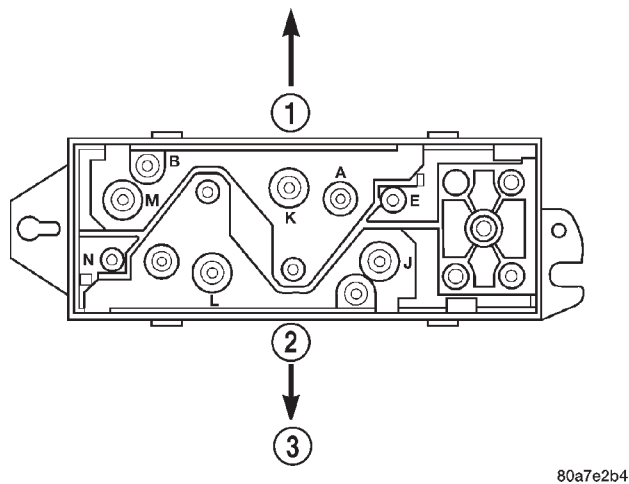

Fig. 2 Power Seat Switch
- (1) Remove switch from mounting position.
- (2) Using an ohmmeter, perform the Switch Continuity Tests below and refer to (Fig. 2) for Pin locations. If there is no continuity at any of the switch positions, replace switch.